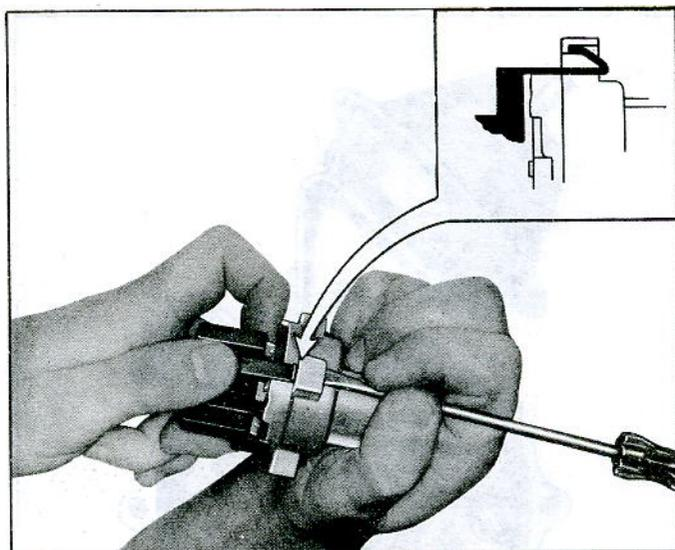

Fig. 9i—Unlocking Ignition Switch Connector
- switch must be out from under the dash as outlined in Step 4. Using a screw driver unsnap the locking tangs on the connector from their position on the switch as shown in Figure 9i. Unplug the connector.